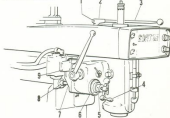

Figure 19. Spindle Feed and Brake Adjustment
50. SPINDLE DOWN FEED (figure 19)
51. SPINDLE BRAKE (figure 19)
53. REPLACING SLIP CLUTCH (figure 19)